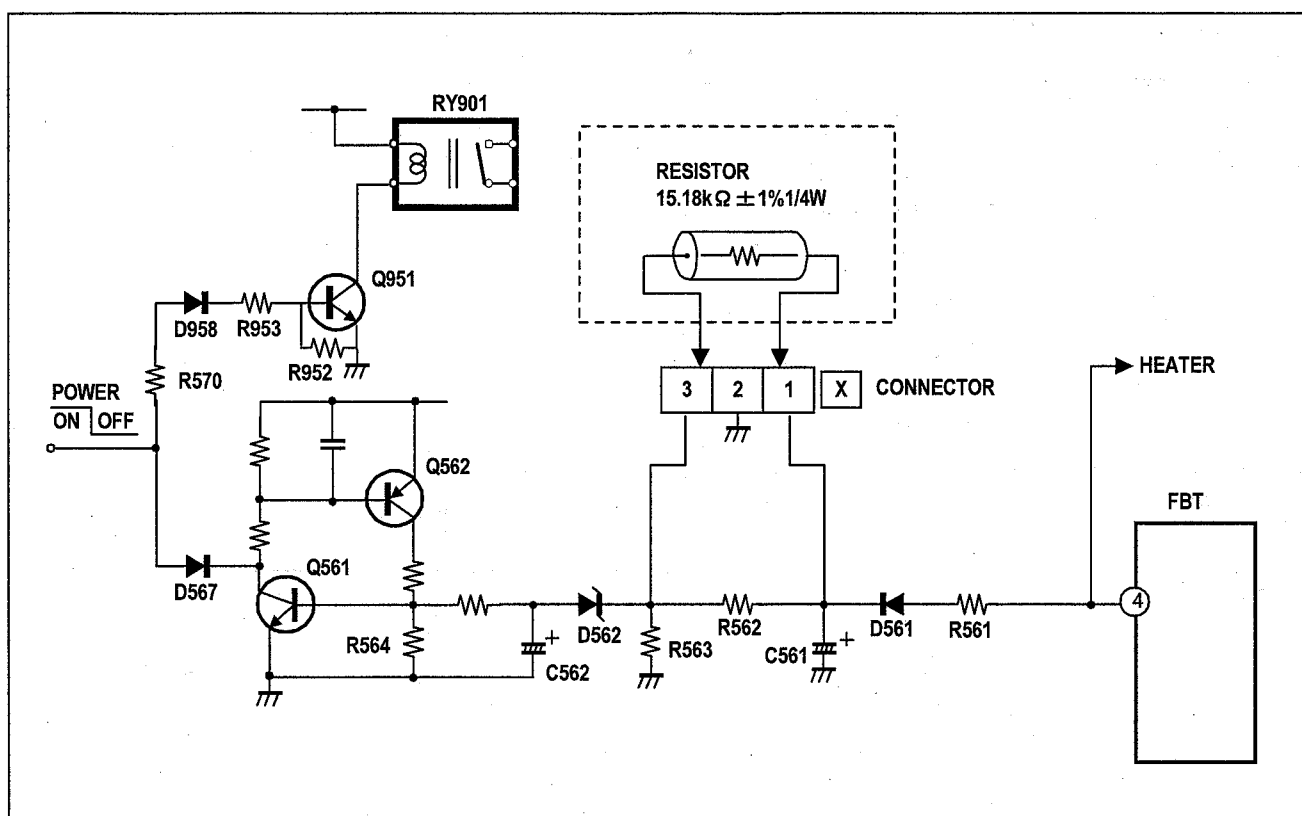

Fig. 1
After repairing the high voltage hold down circuit shown in Fig. 1.
- (1) Turn the POWER SW ON.
- (2) As shown in Fig. 1, set the resistor (between ☐ connector 1 & 3).
- (3) Make sure that the screen picture disappears.
- (4) Temporarily unplug the power cord.
- (5) Remove the resistor (between ☐ connector 1 & 3).
- (6) Again plug the power cord, make sure that the normal picture is displayed on the screen.